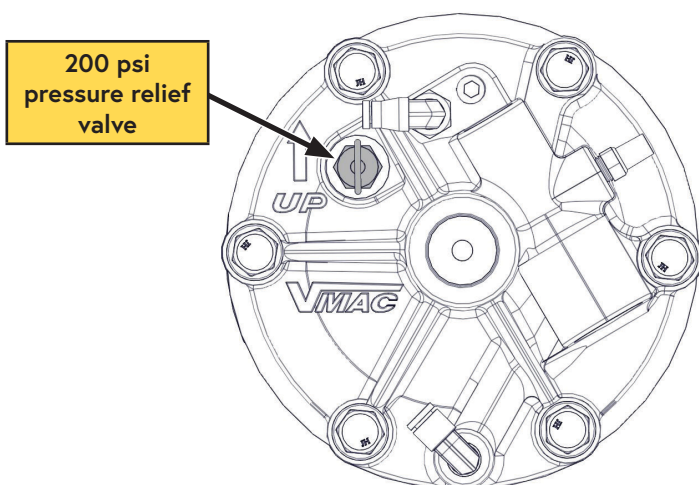

Figure 32 — Pressure relief valve
- ☐ Apply thread sealant and replace the pressure relief valve (Figure 32).